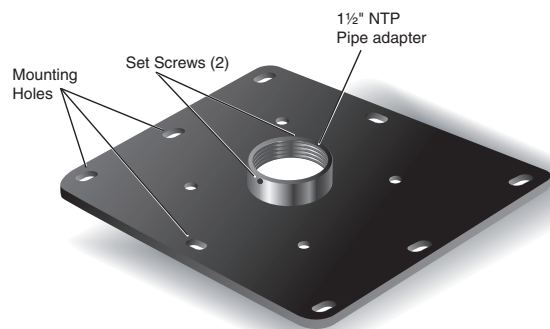

Figure 1 — FCMP 1010 Features
The features of the FCMP 1010 are shown in figure 1. Included in the kit are:
1. Locate a suitable wooden joist at the location chosen for the installation. Mark the position of the four corner mounting holes, or a minimum of one hole per side (see figure 1) in the center of a joist (minimum size 2 inch by 4 inch).